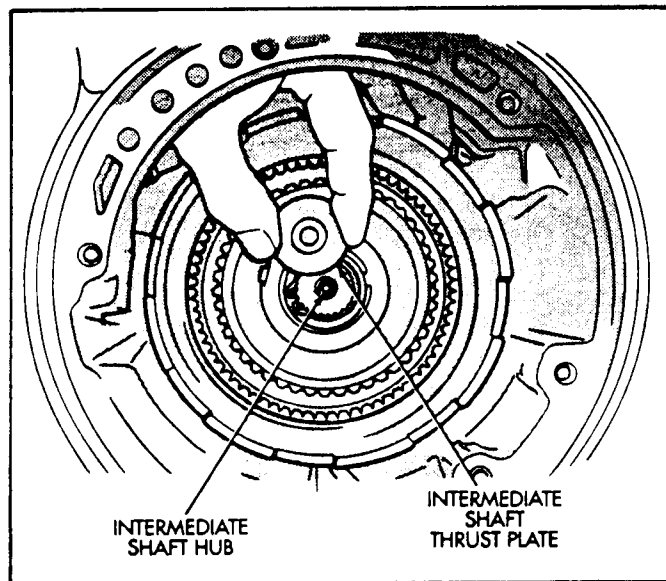

Figure 21
33. Remove intermediate shaft thrust plate from the intermediate shaft hub, shown in Figure 21.